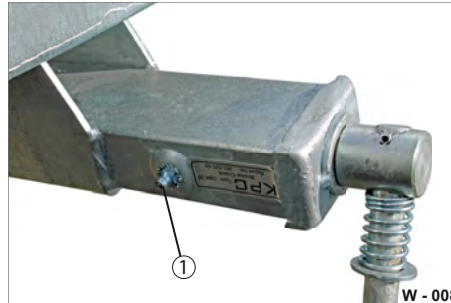

Fig. 11 Lubrication point
- ▶ Actuate the spindle parking brake several times and clean the lubrication points and the lubrication nipple carefully (Fig. 11/1) with a clean, dry cloth.